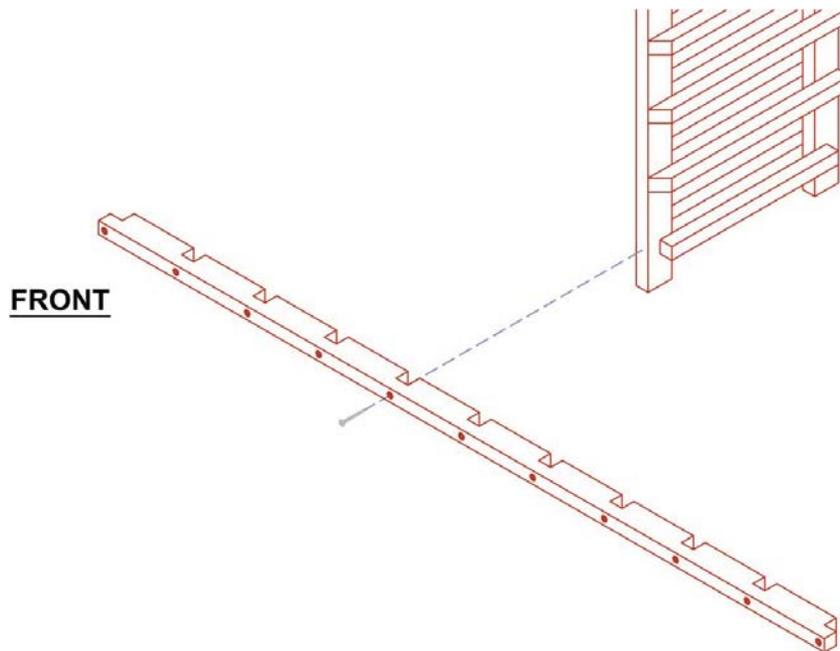

Figure 1
2. Set your double-sided ladder with the back on the floor (angled slats facing up) and fit your spacer bar on the upright of your ladder by placing the dados (or grooves) of the spacer bar onto the upright (**Figure 1**). It may be necessary to tap the spacer bar lightly with a soft-faced hammer to fit, taking care to align the spacer bar vertically with the spacer slat behind it.